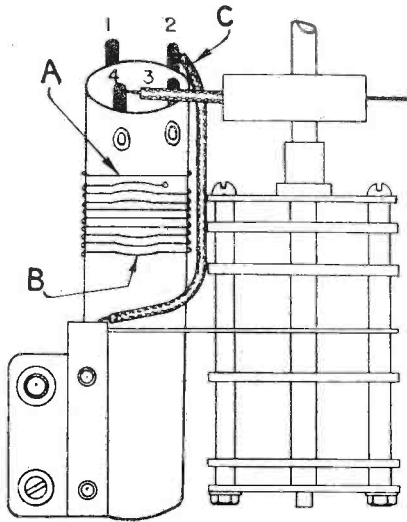

Fig. 1. Indicating coil changes and adjustments for Silvertone Models 1722 and 1732
short-wave antenna coils. Referring to Fig. 1, the single turn of green silk covered wire, A, should be moved as
- (4). Run an additional ground connection from lug 2 (C in Fig. 1) to the low side of the trimmer condenser mounted on the wave-changing switch frame. (There is one ground connection from this lug to the variable tuning condenser frame. This connection should not be disturbed.)
- (5). Try re-aligning by tuning in a